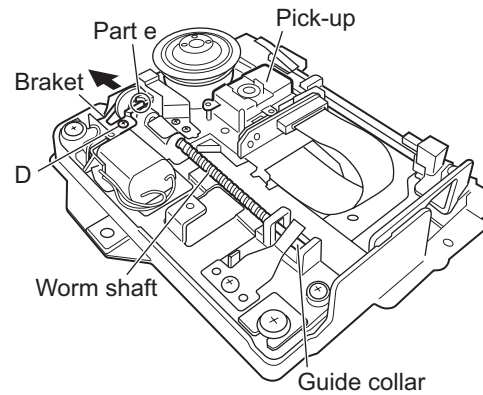

Fig.8-1
3.2.4 Removing the pickup (See Fig.8-1, 8-2)